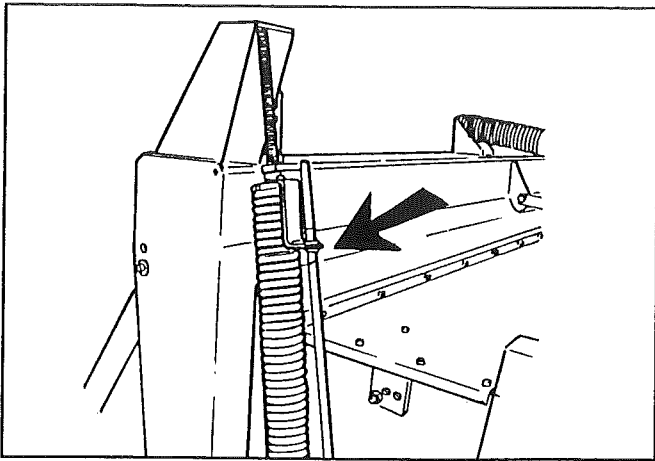

Fig. 7
**FIG. 7** When the machine has been mounted to the tractor in a certain height decided by the support chain, and when the machine has been balanced in both sides the spring indicator is adjusted.